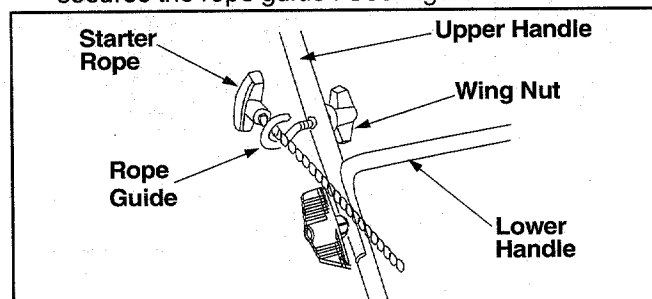

Figure 4
- **Move** rope guide to the first hole above the lower handle on right side. The wing nut loosens and secures the rope guide. See Figure 4.